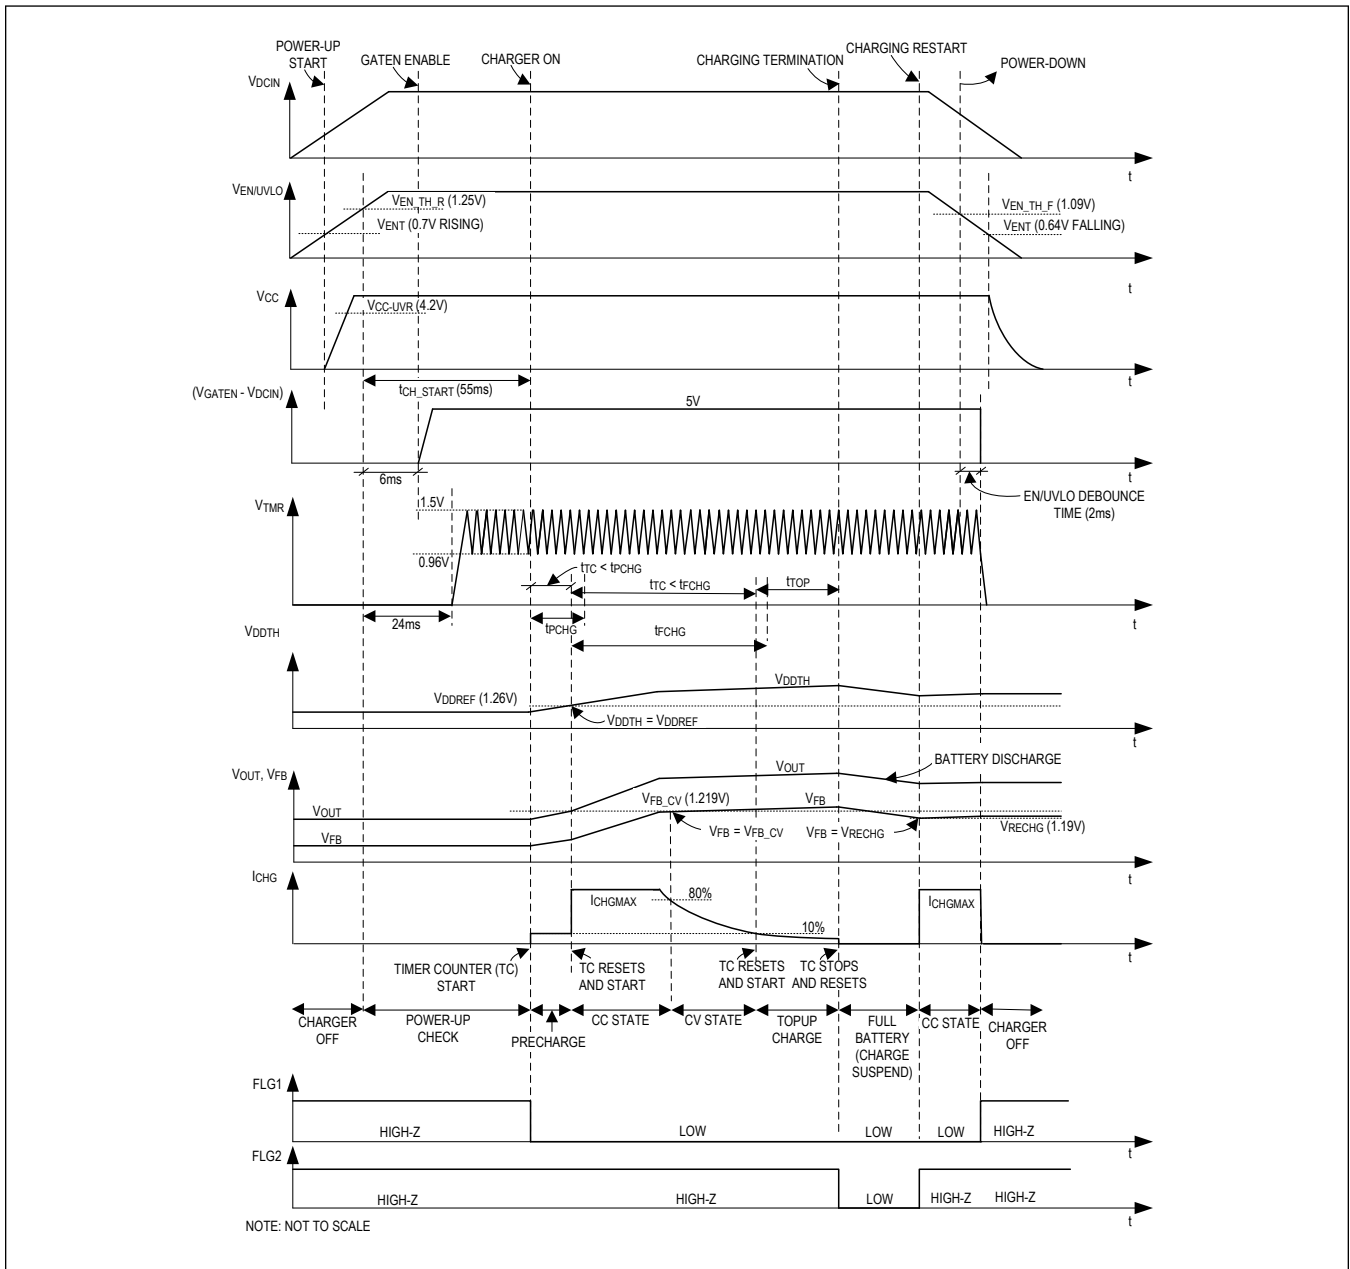
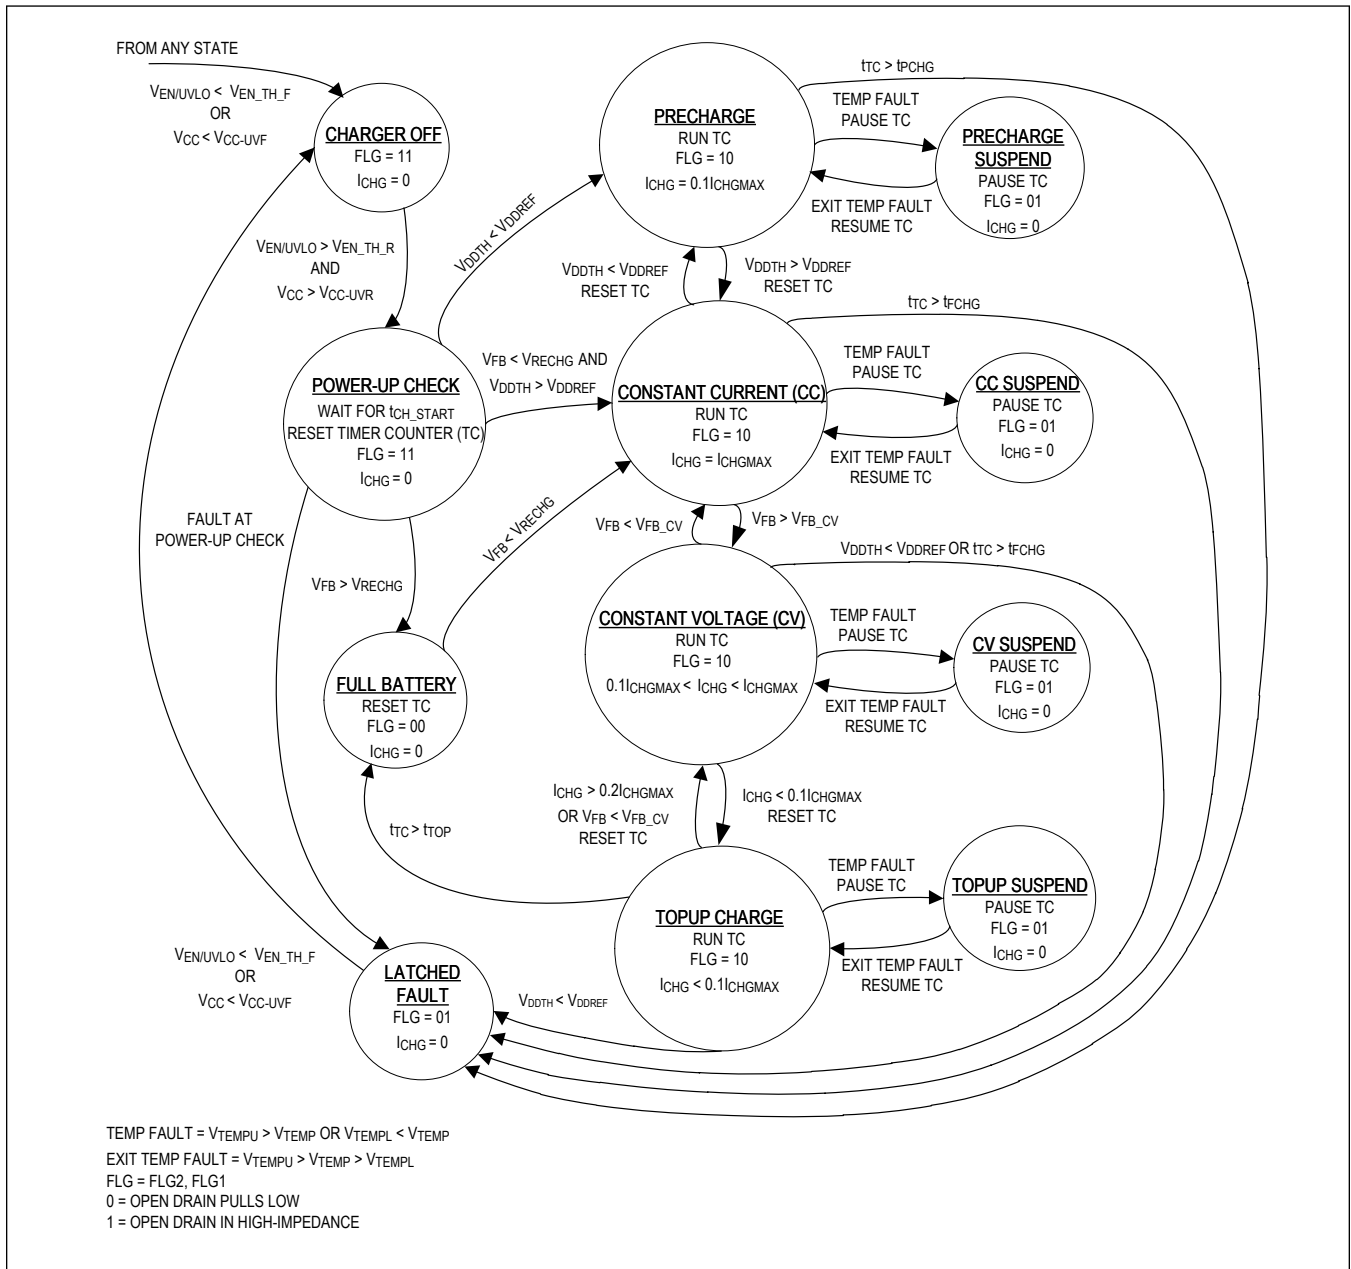

Figure 2. Charger Power-Up/Down Sequence and Li-Ion Battery Charge Cycle
Figure 3. Charger-State Diagram
Figure 2 shows both the MAX17703 power-up/down sequence when the DCIN voltage is applied/removed, and a Li-ion battery charge cycle. Figure 3 shows the Charger-State diagram of the IC. MAX17703 offers precharge, constant-current (CC), constant-voltage (CV), and topup-charge states for charging Li-ion batteries.